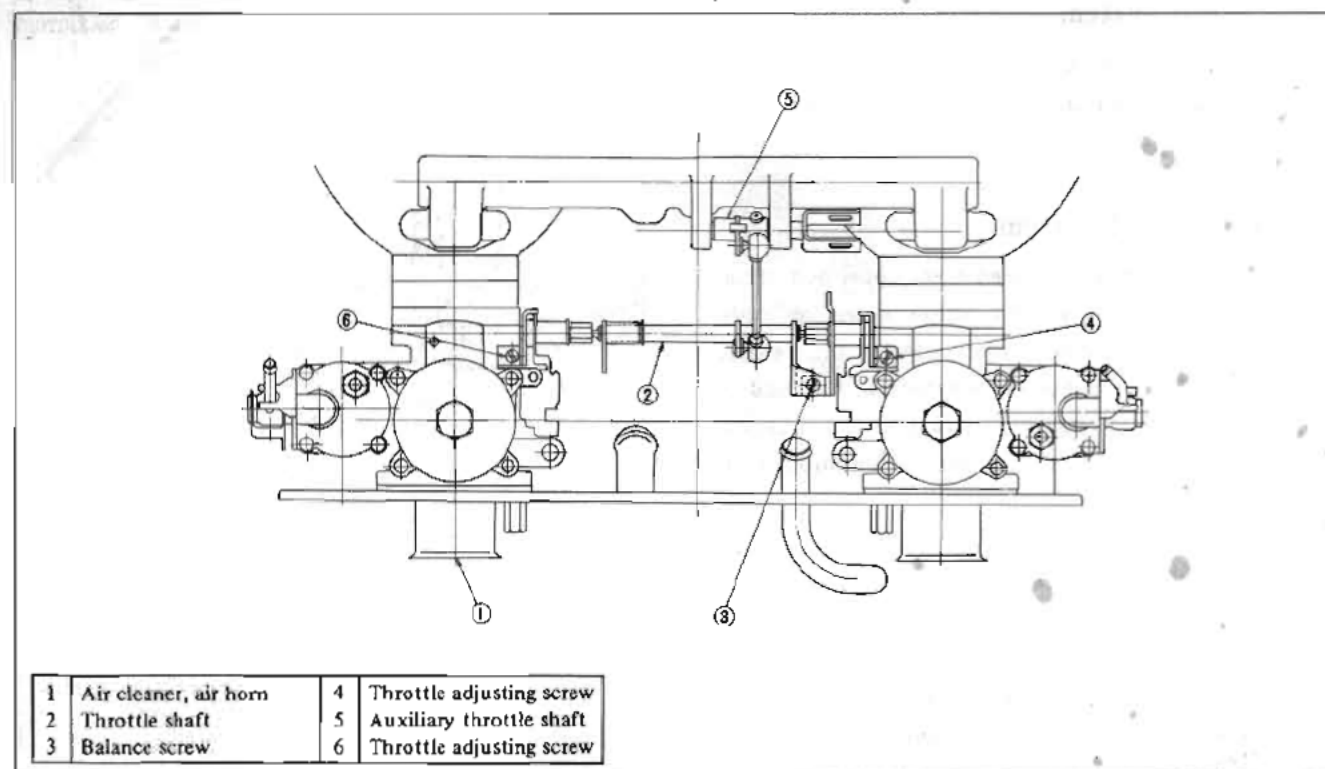

Fig. EF-37 Throttle valve synchronization and idling adjustment
2. Loosen both F and R carburetor's throttle adjusting screws. See Figure EF-37.	a. Make sure F and R carburetor are disconnected.